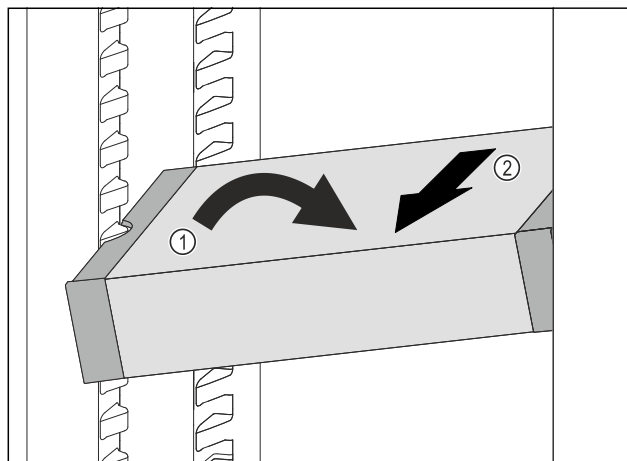

Fig. 249
- Set VarioSafe in refrigerator compartment at an angle. Fig. 249 (1)
- Take VarioSafe out to the front. Fig. 249 (2)